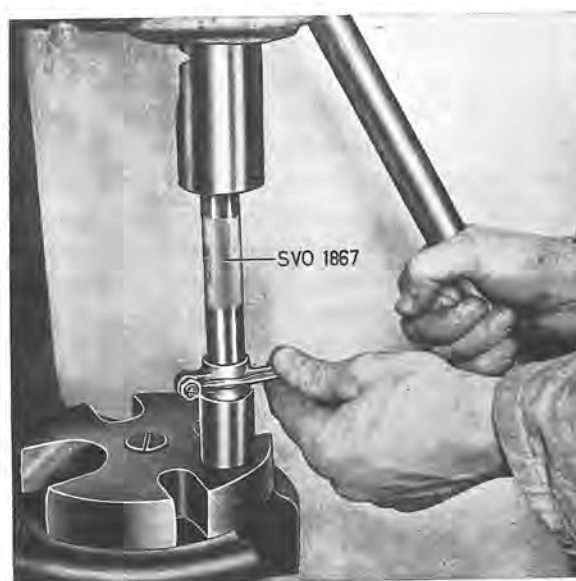

Fig. 2-29. Replacing bush in rocker arm
1. If wear amounts to 0.1 mm (0.004") replace the rocker arm bush. Use tool 1867 for pressing the bush out and in, see Fig. 2-29. Then ream the bush with a suitable reamer until an accurate fit on the shaft is obtained. The hole in the bush should coincide with the hole in the rocker arm.